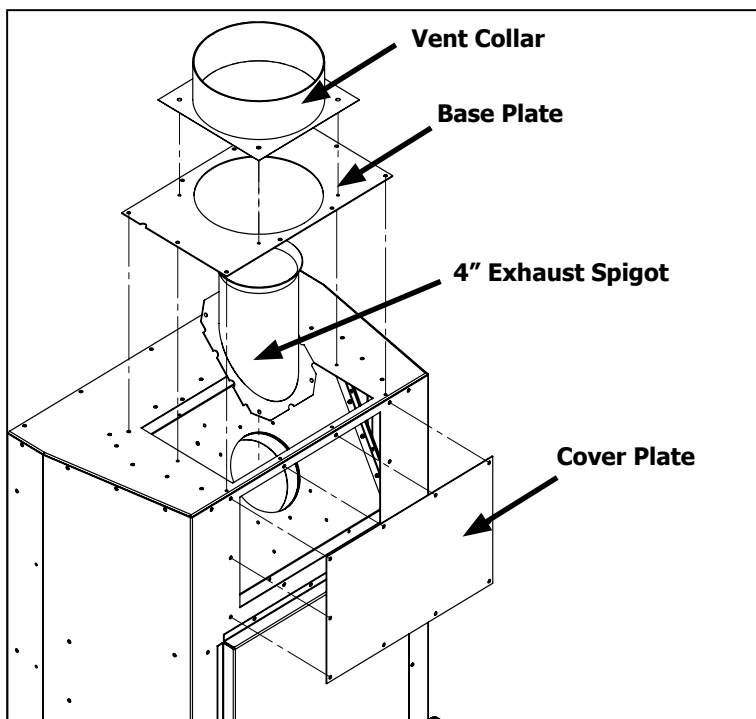

Figure 36: Removal of Co-Axial Venting
**Step 1:** Using a T20 screwdriver remove the vent collar, base plate, cover plate and 4" exhaust spigot (28 screws total) as shown in Figure 36. The vent collar, base plate, and 4" exhaust spigot will no longer be used.
- (1) If an offset is necessary in the attic to avoid obstructions, it is important to support the vent pipe every 3 feet (914 mm), to avoid excessive stress on the elbows, and possible separation. Wall straps are available for this purpose (see Figure 36).
- (2) When ever possible, use 45° degree elbows instead of 90° degree elbows. The 45° degree elbow offers less restriction to the flow of flue gases and intake air.